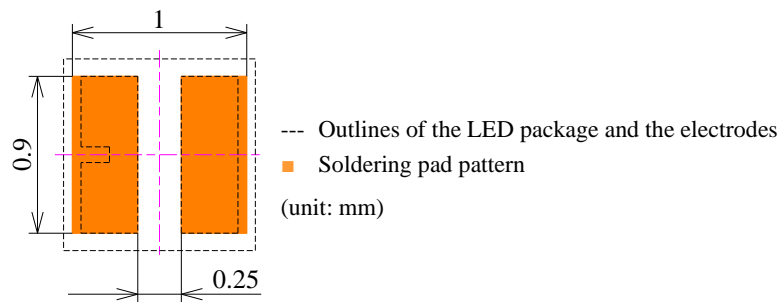

Figure 8. Recommended Soldering Pad Pattern for the Nichia E11A Series LEDs
Figure 8 shows a recommended soldering pad pattern for the Nichia E11A Series LEDs. For more information about assembly precautions, refer to the application note: Assembly Precautions for the Nichia E11 Series LEDs.
- Soldering Pad Pattern: Nichia recommended soldering pad pattern (see Figure 8)